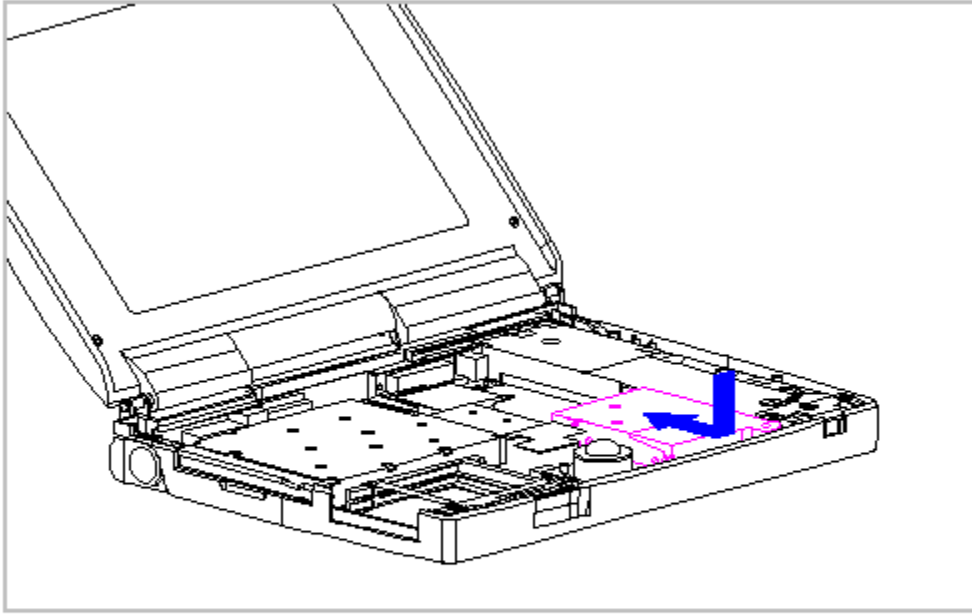

Figure 5-32. Replacing the Hard Drive
1. Set the hard drive and bracket in place and slide it back to connector (Figure 5-32).